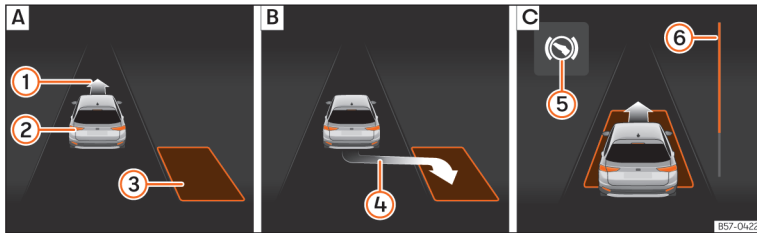
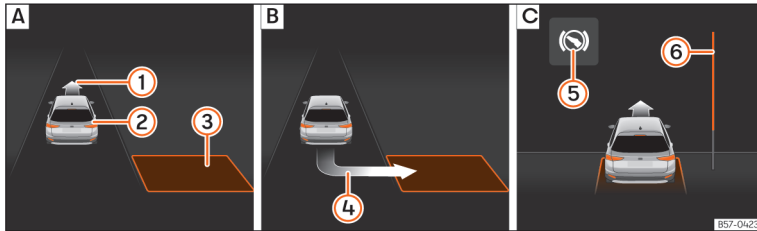

Fig. 144 On the instrument cluster display: parallel parking. **A**: Finding a parking space **B**: Parking position. **C**: Manoeuvring.
Fig. 145 On the instrument cluster display: angle parking. **A**: Finding a parking space **B**: Parking position. **C**: Manoeuvring.
- Look at the instrument cluster screen to see if the space has been detected as “appropriate” and if the correct position for parking has been reached »» Fig. 144 **B** or »» Fig. 145 **B**. The space is considered “appropriate” if the instrument cluster display shows the parking indication ④.
- Reverse until the continuous ParkPilot signal sounds; **OR**: reverse until the indication to move forward appears on the instrument panel display >>> Fig. 144 [C] or >>> Fig. 145 [C]; **OR**: reverse until the **Park Assist finished** message appears on the instrument cluster display. The progress bar ⑥ indicates the distance to cover.
- Press the brake pedal until the parking assist system completes the steering wheel turns; **OR**: until the symbol ⑤ goes out on the instrument panel screen.
Move forward until the continuous ParkPilot signal sounds; **OR**: move forward until the reverse indication appears on the instrument panel display. The Park Assist system steers the vehicle forward and back until it centres it in the space >>> Fig. 144 [C] or >>> Fig. 145 [C].
The progress bar >>> Fig. 144 ⑥ and >>> Fig. 145 ⑥ on the instrument cluster display shows the relative distance to be covered as a